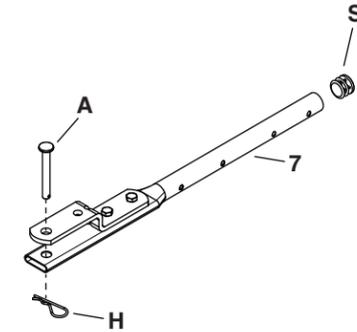

Figure 1
STEP 1: (SEE FIGURE 1)
- Insert a plug (S) into the end of the hitch tube (7).
- Install the hitch pin (A) in the hitch bracket and hitch tube and secure it with the hairpin cotter (H).